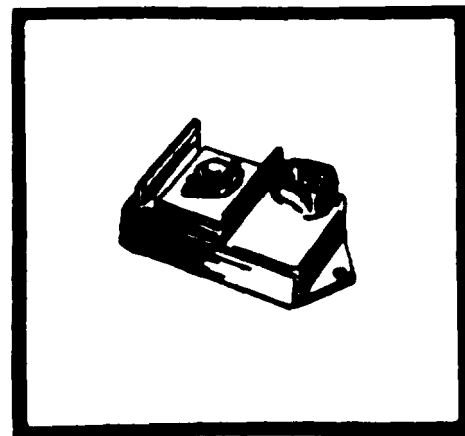

Fig. 79
2. Electronic Control Unit - Fig. 79.